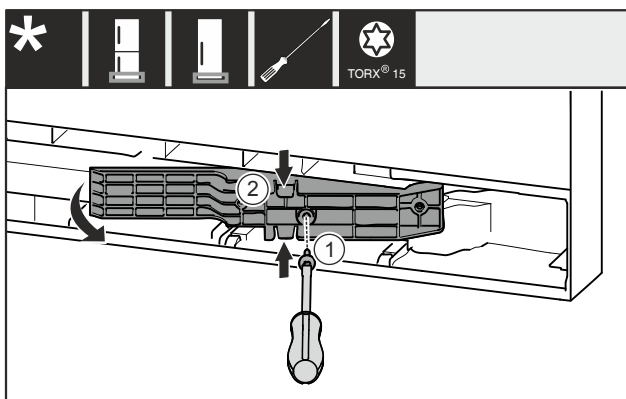

Fig. 20 *
- Remove the screw Fig. 20 (1)*.
- Gently press the adapter piece Fig. 20 (2) together at the top and bottom and pull it out.*